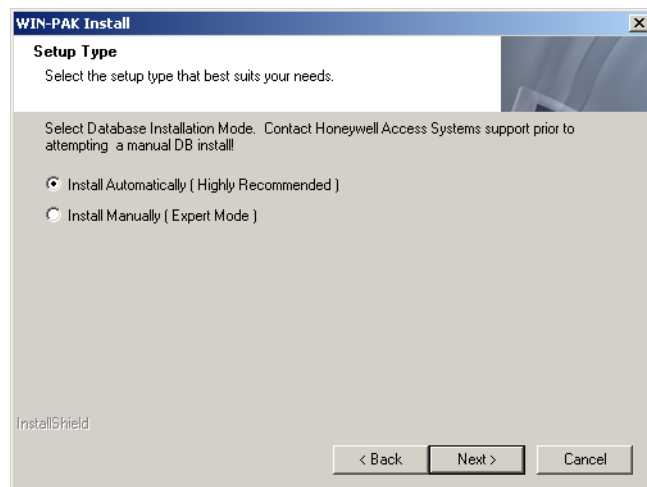

Figure 2-19 *Setup Type*
5. Click **OK**. *Figure 2-19* appears.